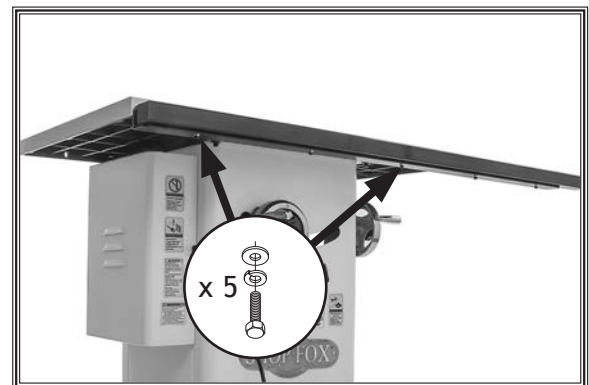

Figure 23. Front rail tube attached to front rail.
12. Install front rail tube to front rail with (5) $\frac{1}{4}$ "-20 x $\frac{5}{8}$ " hex bolts, 6mm flat washers, and 6mm lock washers, as shown in **Figure 23**. Finger-tighten fasteners for now.